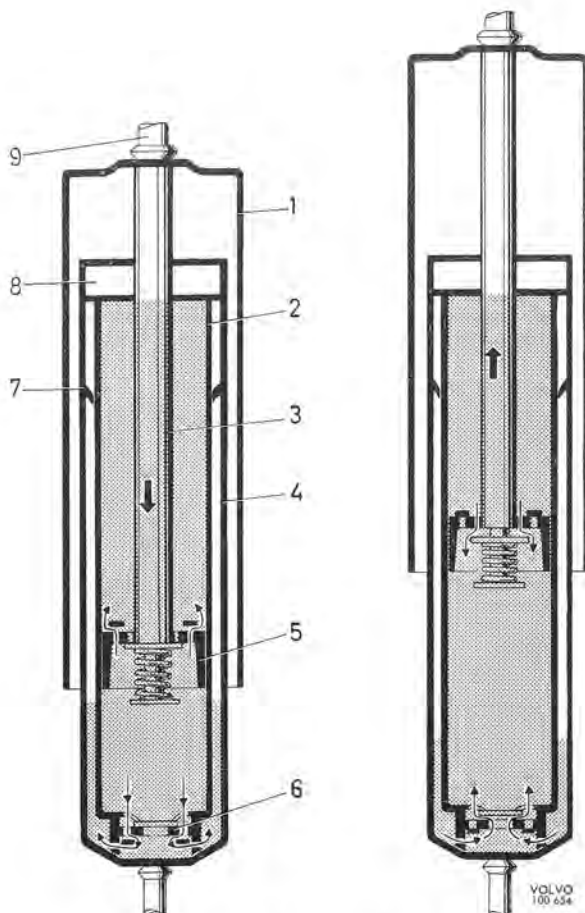

Fig. 7-7. Shock absorber, function
The design of the shock absorbers is shown in Fig. 7-7. The outer cylinder (1) serves only as a protection against dust and dirt. The other two cylinders (2 and 4) are concentrically arranged, one inside the other. The inner cylinder (2) is the actual working cylinder, the lower end of which is provided with a valve (6). Inside the inner cylinder there is a piston (5) in which holes are drilled, the passage of oil through these holes being controlled by valves.